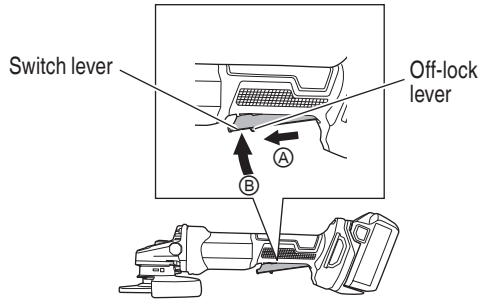

Fig. 15
- Turn the grinder "on". (Fig. 15)
To switch on, slide the off-lock lever in the direction of Ⓐ and press the switch lever in the direction of Ⓑ as shown in Fig. 15. Release the switch lever to switch off.